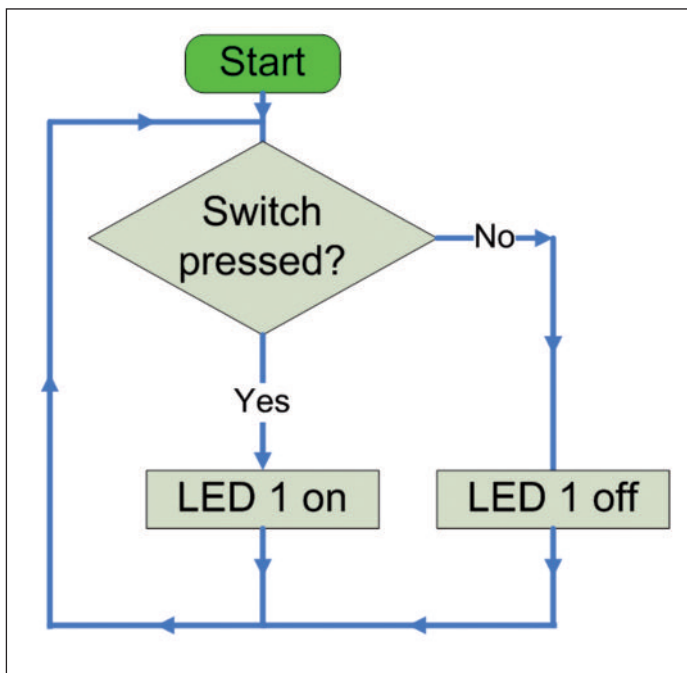

Fig 10: Flowchart of test program for the switch subsystem
■ **Step 6:** To test a digital input sensor we have to have some means of knowing that its signal is going high and low. We can do this with a test program that checks the input signal and turns an output subsystem on and off in response. If we build the switch input subsystem next, then the test program shown in Fig 10 will turn on the LED if it is pressed.